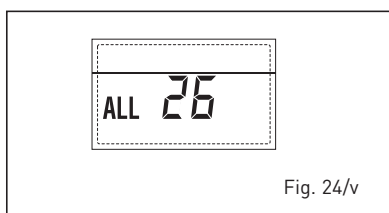

Fig. 24/v
- SOLAR APPLICATION COHERENCE ANOMALY "ALL 27" (fig. 24/w)